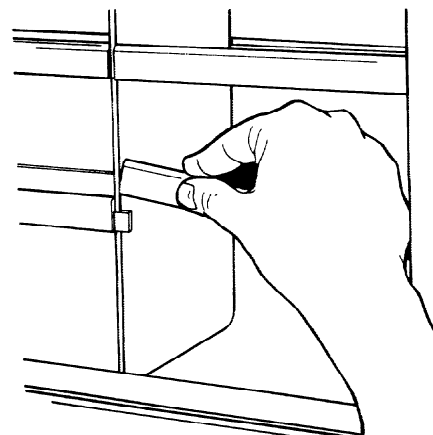

FIGURE 57
3. Replace the front trim by sliding the trim into the compartment area without the shelf. See Figure 57. When the shelves are removed either one or both sides can now be used as a tall package shelf. See Figure 58 and 58A.